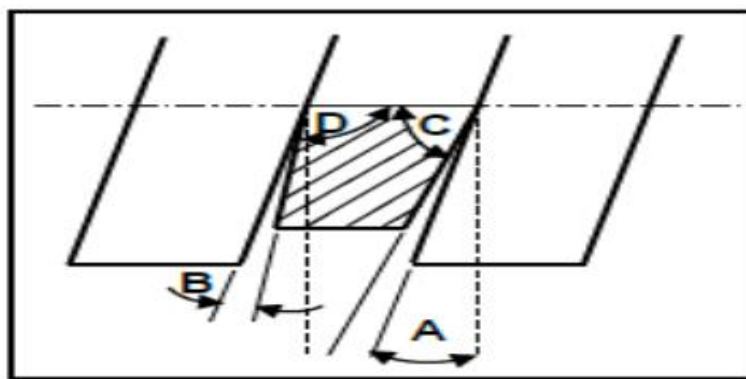

FIGURE 10.2
10.2 Study FIGURE 10.2 below and answer the question that follows.